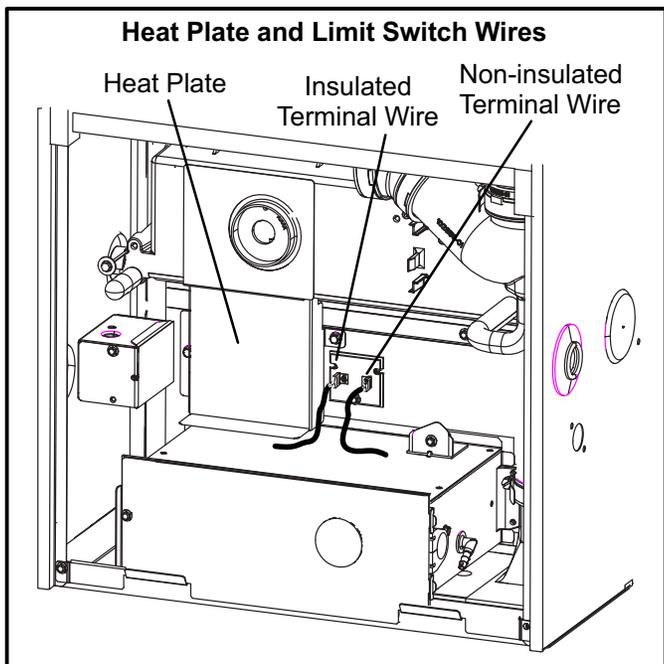

FIGURE 2
- NOTE - Insulated limit wire MUST be connected to the limit terminal closest to the heat plate to avoid a short. See figure 2.*